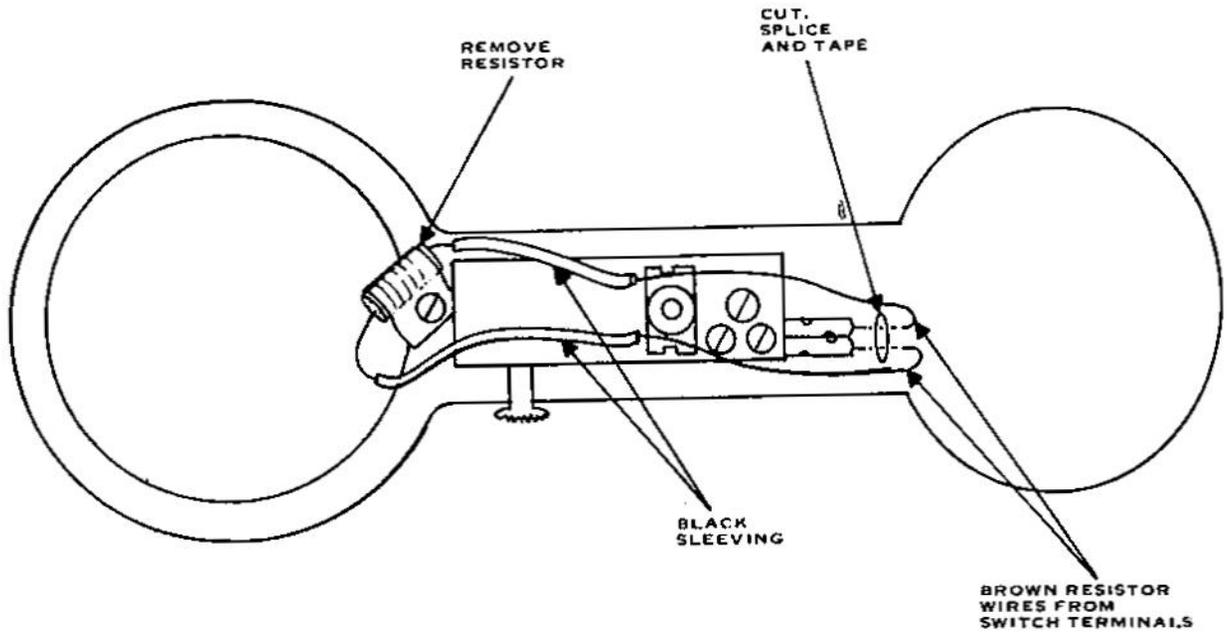

Figure 4. Removal of 1500 Ohm Resistor.
- (b) Cut and splice the two brown resistor leads together (Figure 4).